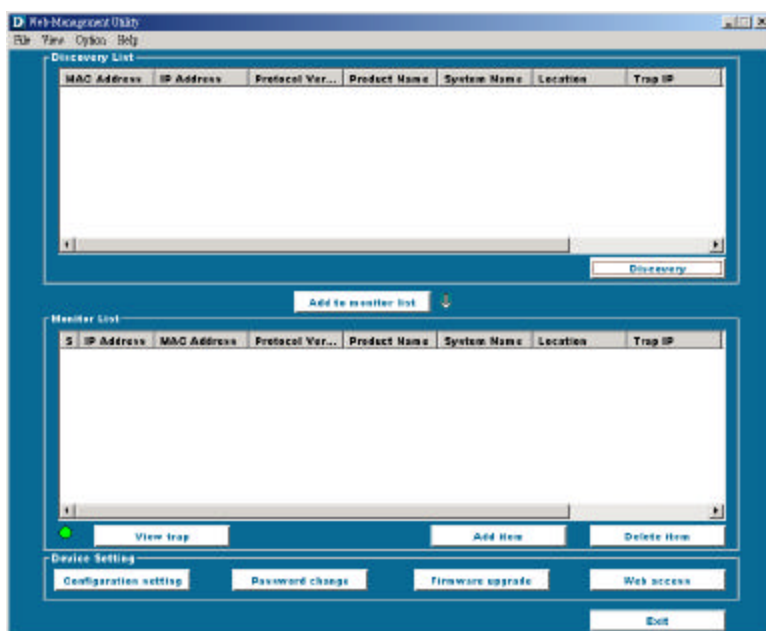

Figure 7. Web Management Utility
5. Upon completion, go to **Program Files -> web\_management\_utility** and execute the Web Management utility. (Figure 7.)